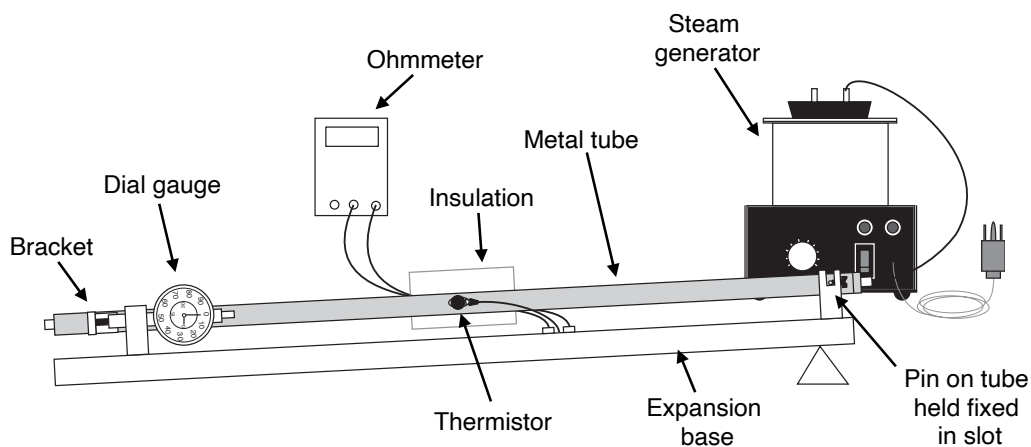

Figure 1: Schematic of the apparatus for the experiment.
3. The copper rod was fit into in expansion base as shown in Figure 1. The stainless steel pin on the tube fit into the slot that fixed it in place, and the bracket at the other end fit against the spring arm of the dial gauge.